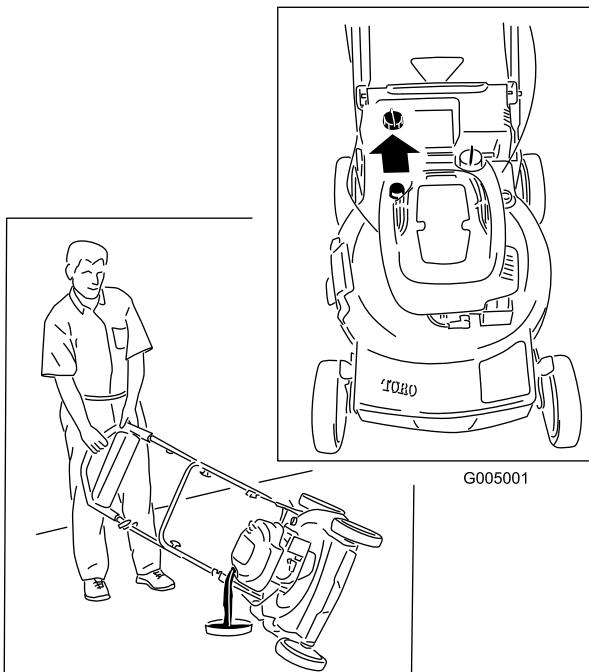

Figure 22
3. Tip the mower onto its side with the air filter up to drain the used oil out through the oil fill tube (Figure 22).